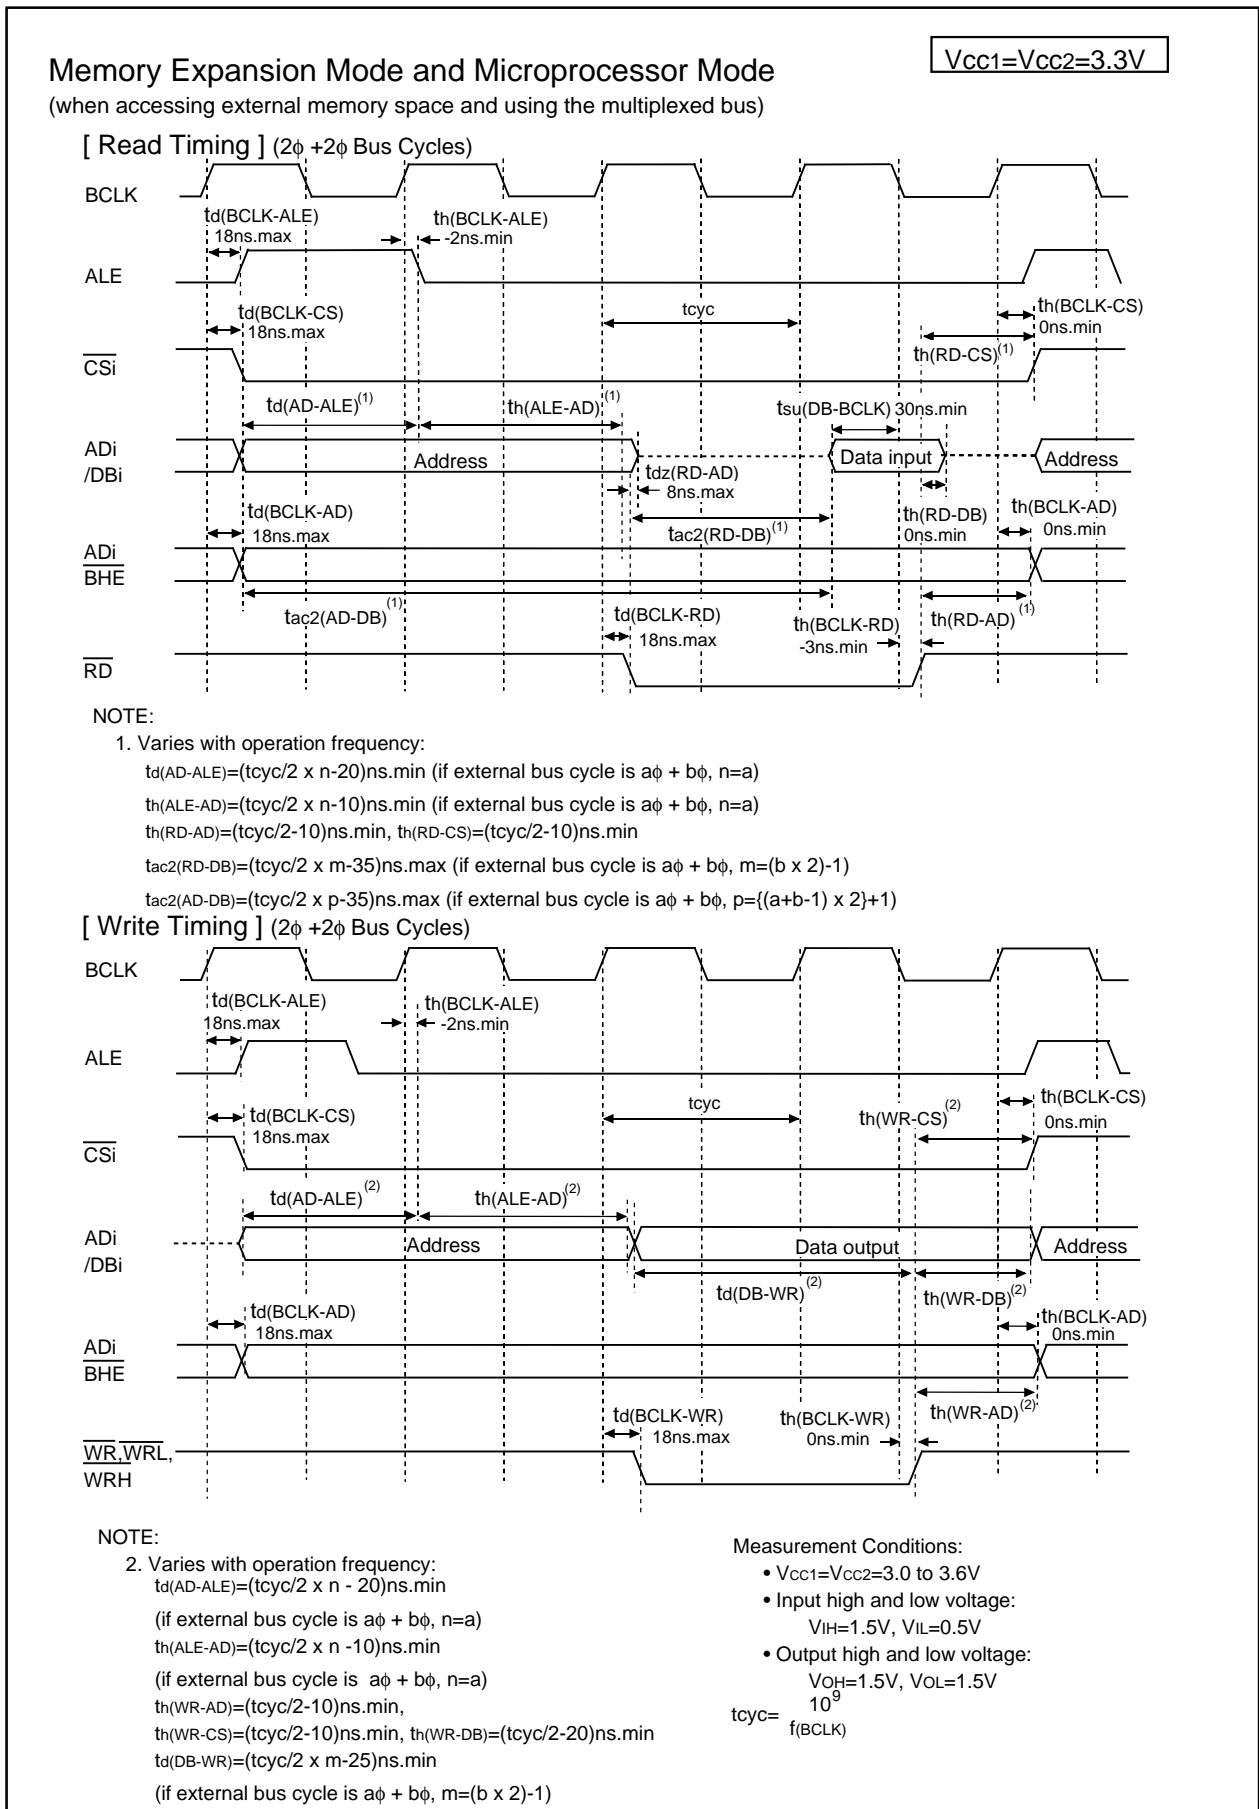

Figure 5.7 VCC1=VCC2=3.3V Timing Diagram (2)
53	<ul style="list-style-type: none"> <li>• Figure 5.7 Vcc1=Vcc2=3.3V Timing Diagram (2) Expression for tcyc added; notes 1 and 2 corrected</li> </ul>